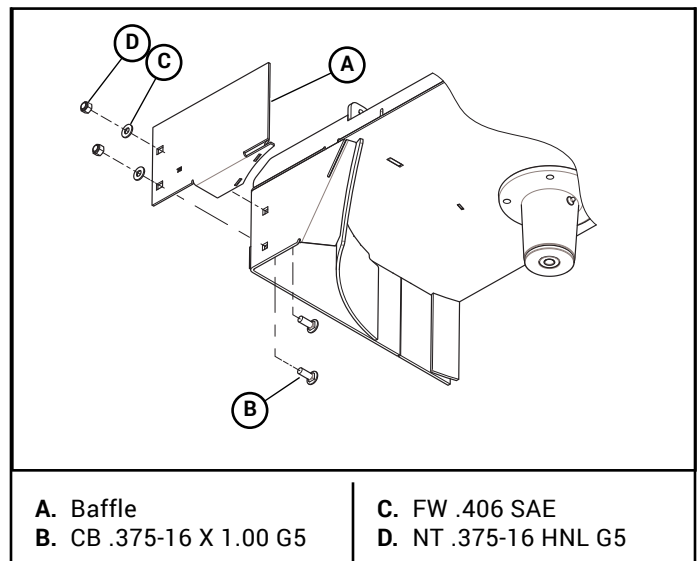

Figure 3-2
5. Attach the blower baffle to the deck. Figure 3-2